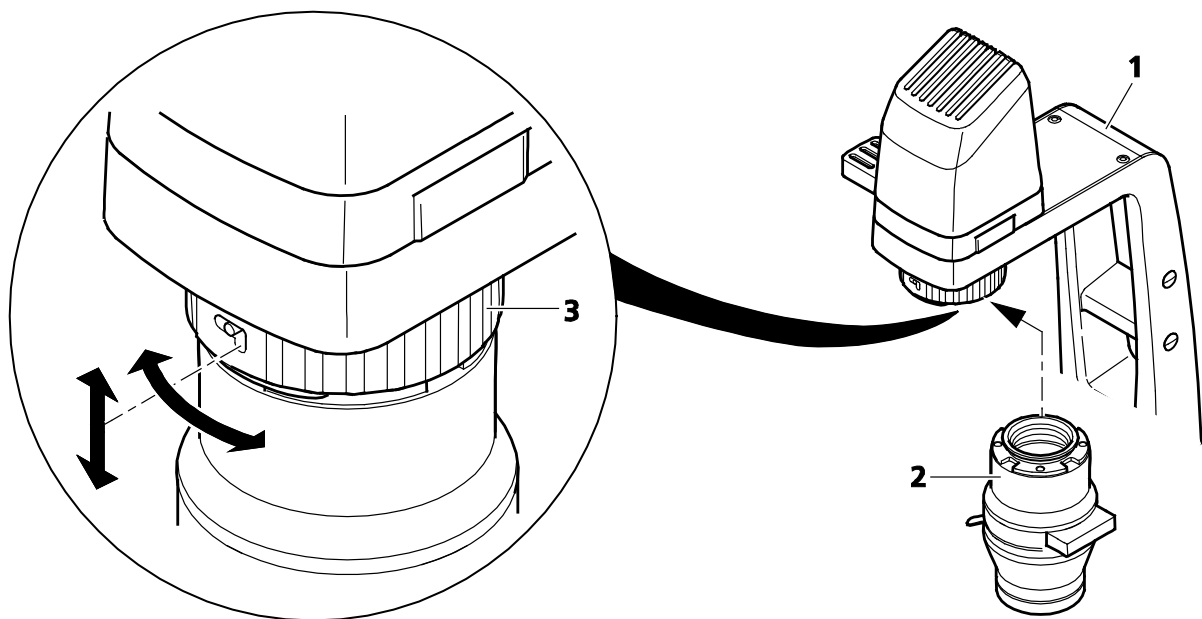

Fig. 3-11 Inserting the Condenser
- Unlock the quick-action locking mechanism on the carrier for transmitted light illumination (Fig. 3-11/1). To this end, turn the locking ring (Fig. 3-11/3) to the right, push it upward and hold it in this position.
- Insert the condenser (Fig. 3-11/2) in the desired angular position into the mount from the right.